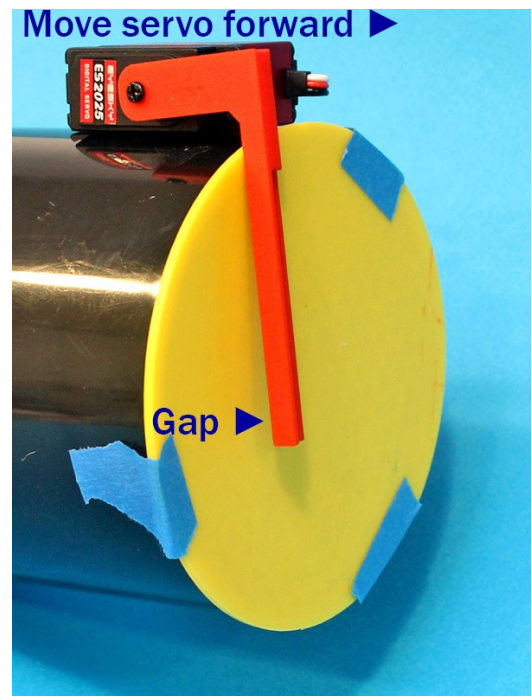

Figure 16: Move servo **forward** to remove **bottom** gap
- If there is a gap between the **bottom** of the bracket and the lens cap (Figure 16), slide the servo **forward** and rotate the bracket until it rests flat against the cap.